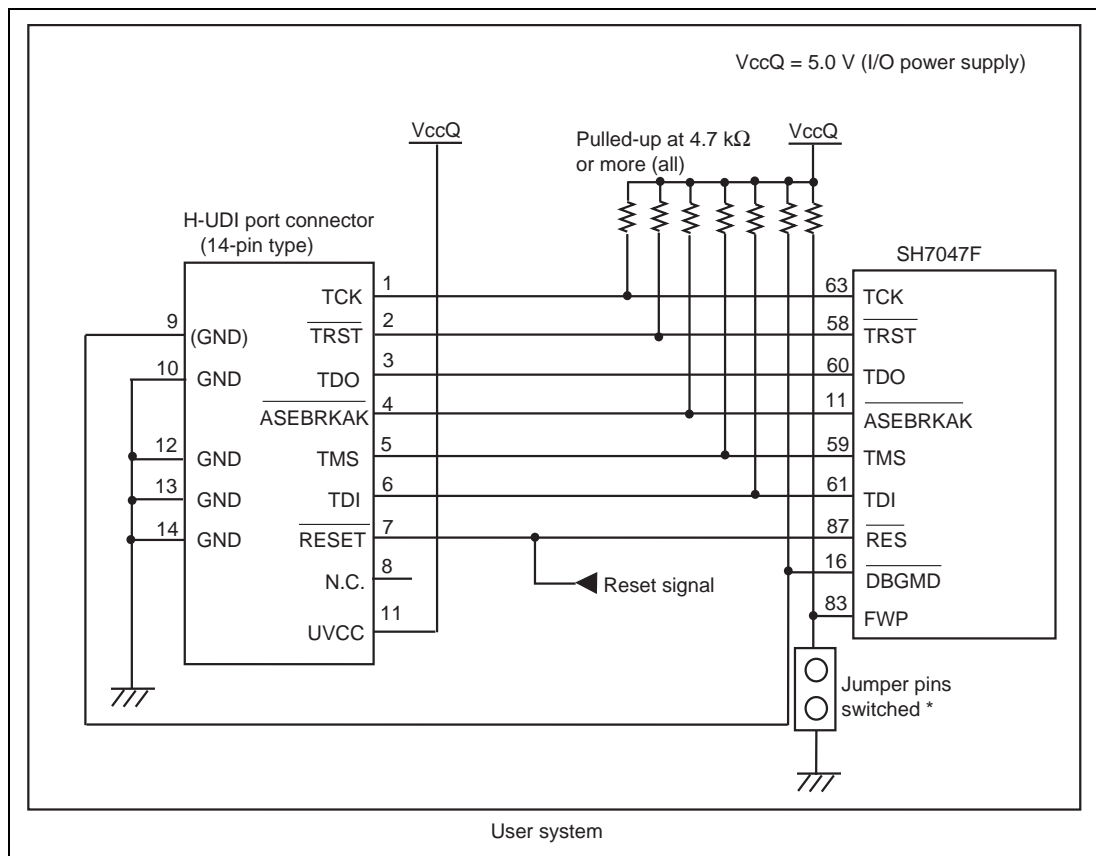
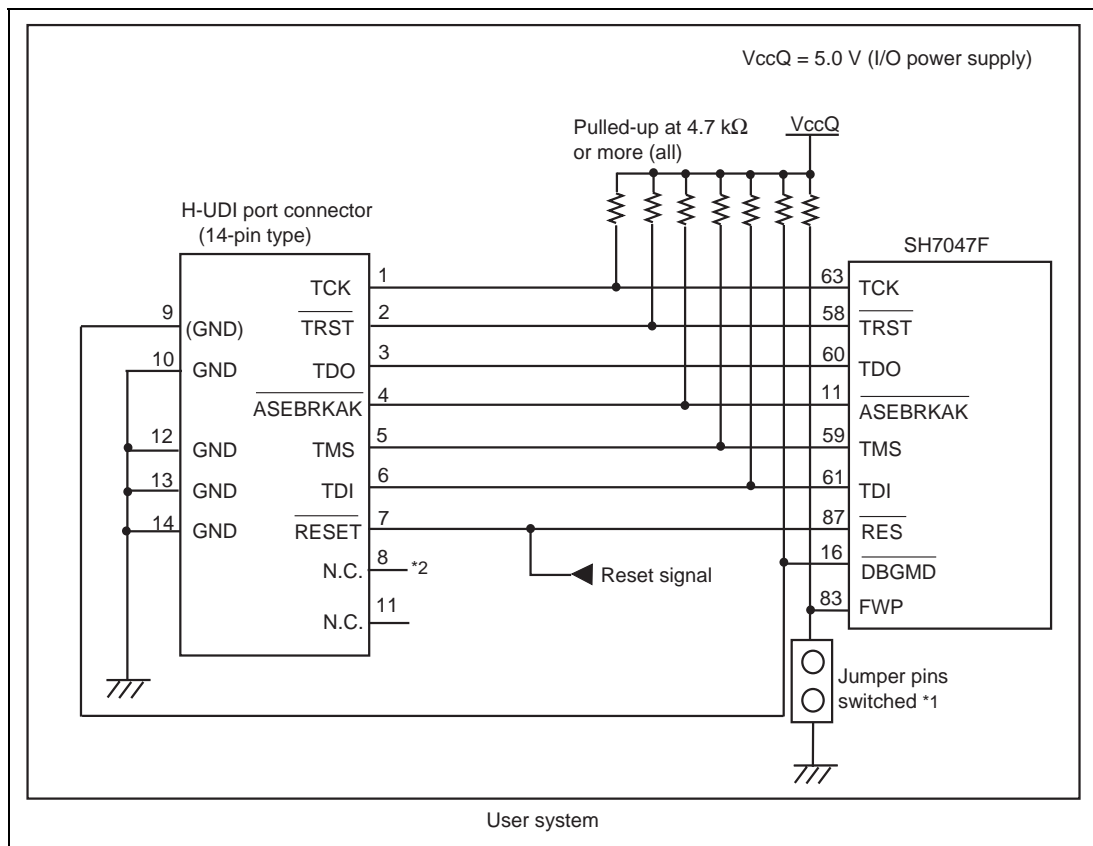

Figure 1.5 Recommended Circuit for Connection between the H-UDI Port Connector and MCU when the Emulator is in Use (14-Pin Type UVCC Connected)
Figure 1.6 Circuit for Connection between the H-UDI Port Connector and MCU when the Emulator is in Use (14-Pin Type UVCC Not Connected^{*2})
Figure 1.5 shows a recommended circuit for connection between the H-UDI and AUD port connectors (14 pins) and the MCU when the emulator is in use. Figure 1.6 shows a circuit for connection when UVCC is not connected.
- (1) When the emulator is used: /DBGMD = 0 (ASE mode)
- (2) When the emulator is not used: /DBGMD = 1 (normal mode)Figures 1.5 and 1.6 show examples of circuits that allow the /DBGMD pin to be GND (0) whenever the emulator is connected by using the user system interface cable. When the /DBGMD pin is changed by switches, etc., ground pin 9. Do not connect this pin to the /DBGMD pin.
6. When the power supply of the user system is turned off, supplying VccQ of the user system to the UVCC pin reduces the leakage current from the emulator to the user system. A level shifter that is activated by the internal power supply or user power supply (changed by the switch) is installed in the interface circuit of the emulator. If the user power is supplied to the UVCC pin, the level shifter is not activated as long as no user power is supplied. When the power supply of the user system is turned off, no current flows from the user interface. The I/O voltage level of the user system interface can be the same as that of the VccQ. To operate the emulator with low voltage (lower than 5.0 V), the VccQ must be supplied to the UVCC pin. Make the emulator's switch settings so that the VccQ will be supplied (SW2 = 1 and SW3 = 1) (as shown in figure 1.5).
7. The resistance values shown in figures 1.5 and 1.6 are recommended.
When the circuit is connected as shown in figure 1.5, the switches of the emulator are set as SW2 = 1 and SW3 = 1. For details, refer to section 3.8, Setting the DIP Switches, in the Debugger Part of the SuperH™ Family E10A-USB Emulator User's Manual.
When the circuit is connected as shown in figure 1.6, the switches of the emulator are set as SW2 = 0 and SW3 = 1. For details, refer to section 3.8, Setting the DIP Switches, in the Debugger Part of the SuperH™ Family E10A-USB Emulator User's Manual.